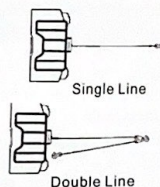

Figure 2
1. Maximum working load capacity is on the wire rope layer closest to the drum. DO NOT OVERLOAD. DO NOT ATTEMPT PROLONGED PULLS AT HEAVY LOADS. Overloads can damage the winch and/or the wire rope and create unsafe operating conditions. FOR LOADS OVER 1,000 POUNDS (454 kg), WE RECOMMEND THE USE OF THE OPTIONAL PULLEY BLOCK TO DOUBLE LINE THE WIRE ROPE (Figure 2). This reduces the load on the winch and the strain on the wire rope by approximately 50%. Attach hook to load bearing part. The vehicle engine should be running during winch operation. If considerable winching is performed with the engine off, the battery may be too weak to restart the engine.